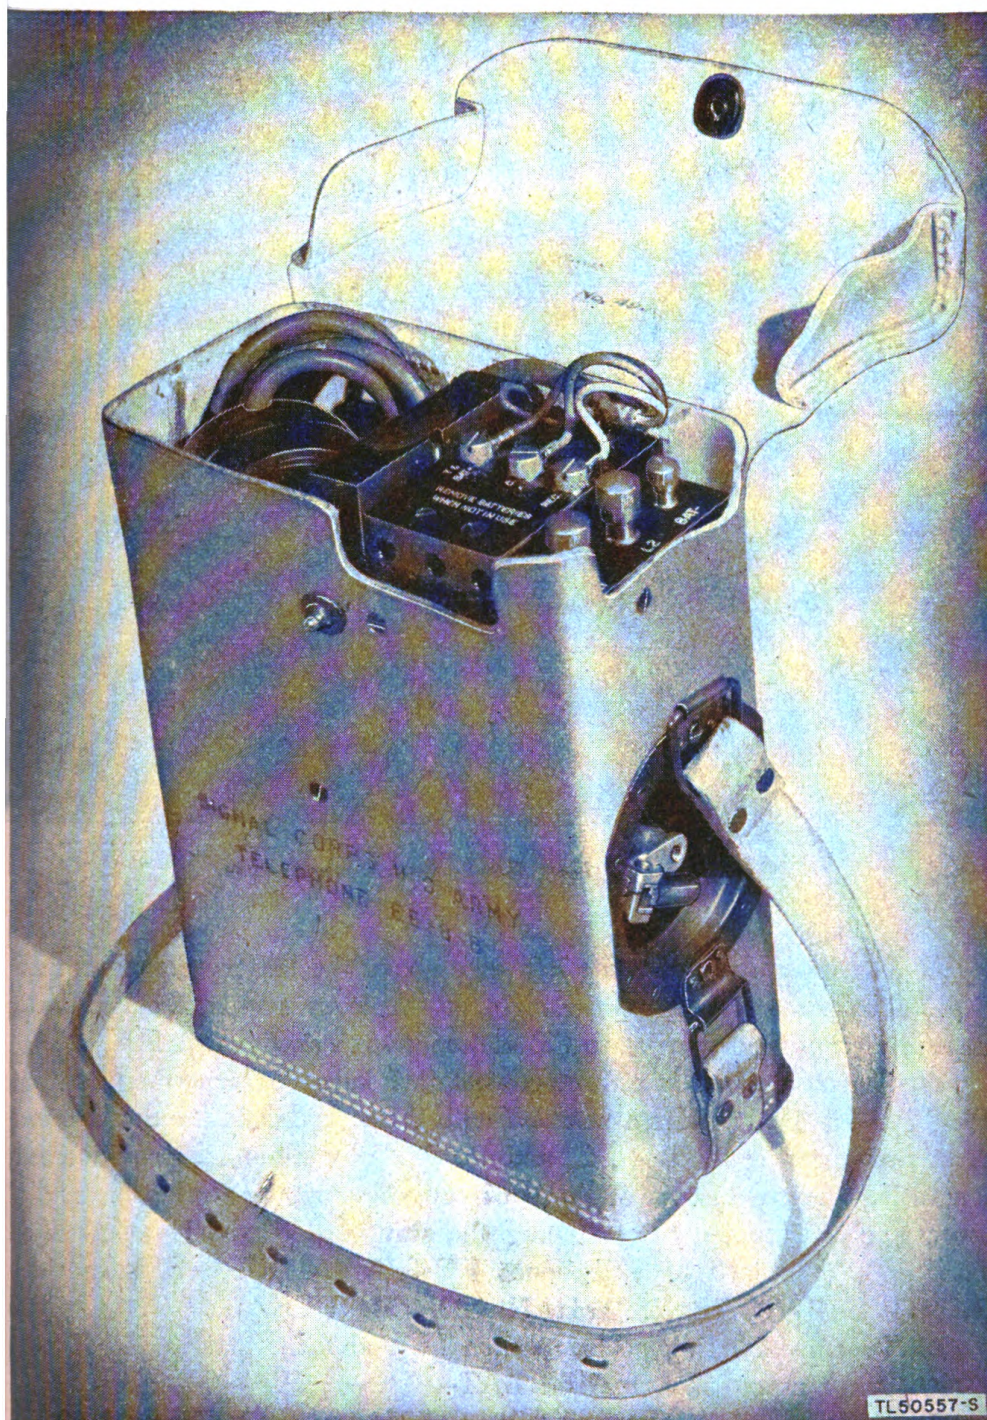

Figure 2. Telephone EE-8-B with leather case.
b. CASE. The case containing Telephone EE-8-(\*) is made of leather or canvas and has an adjustable carrying strap. (See figs. 2 and 3.) The cover is hinged at the back, overlaps the sides and front, and fastens in front with a snap fastener. The space within the case not occupied by the body is used for storing the handset.